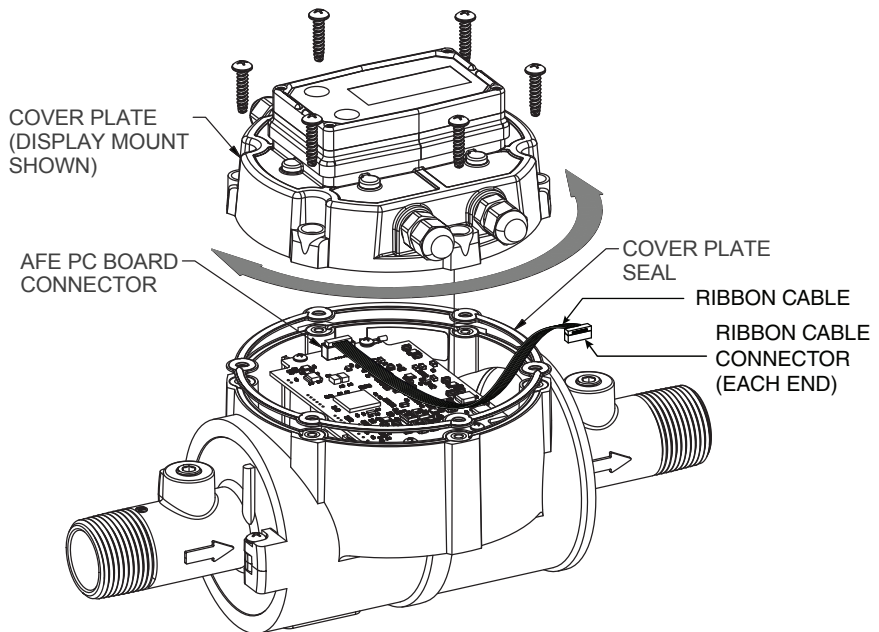

Figure 1
- Connect the QSI module PC board connector to the AFE module PC board connector inside the meter housing with the ribbon cable. The ribbon cable connectors are polarized and cannot be incorrectly connected (see Figure 1).
- Install the (6) cover plate screws and tighten. Make sure the cover plate seal is fully seated before tightening the screws.